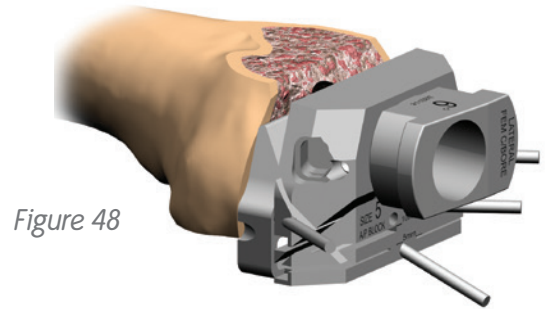

Figure 48
8. Resect the posterior chamfer (Figure 48).
2. Insert the femoral counterbore guide bushing into the A/P femoral cutting block, ensuring that the “LATERAL” notation on the bushing is correctly positioned for a left or right knee (Figure 48).